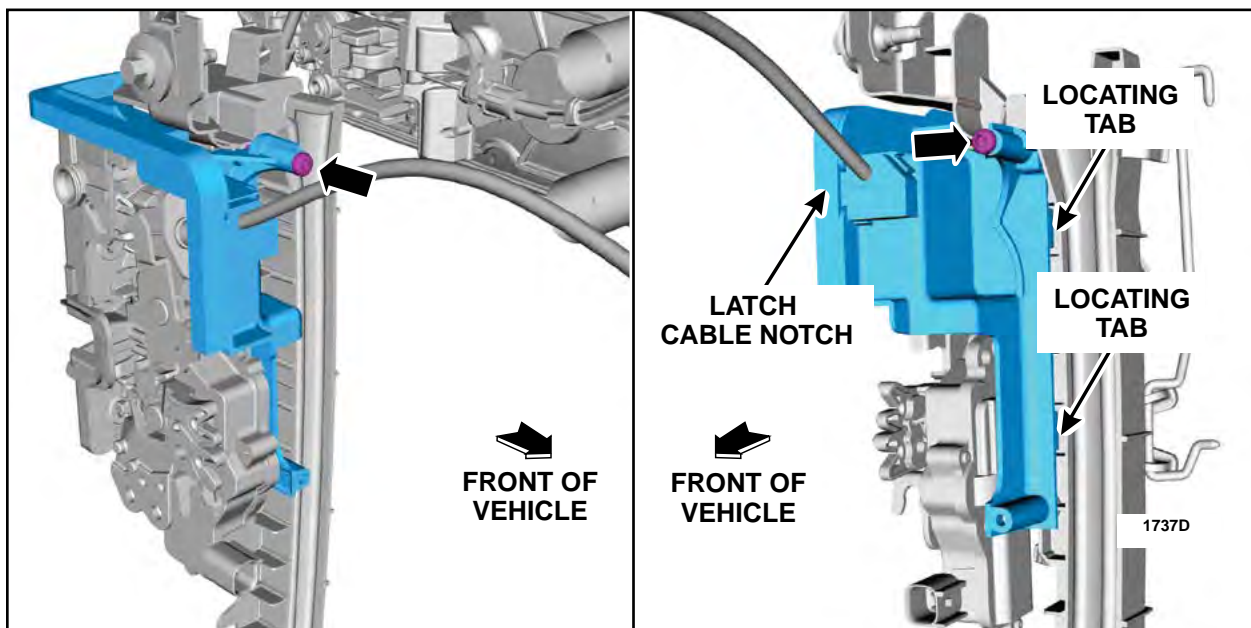

FIGURE 9
11. With the latch and door glass run assembly loose inside the door panel, install the door latch water shield into position. See Figure 9.
12. Install the *new* screw into the top hole of the shield. See Figure 9.